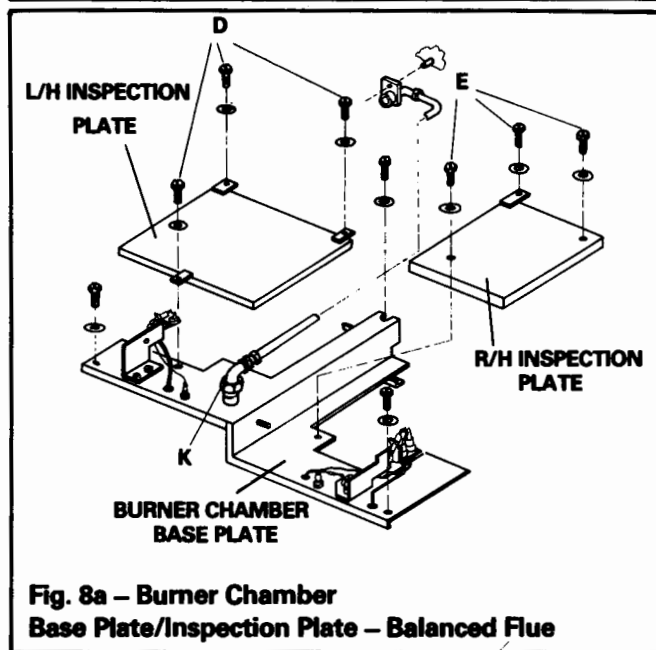

Fig. 8a - Burner Chamber Base Plate/Inspection Plate - Balanced Flue
- k. Undo three hexagonal fixing screws and washers **D** on left hand combustion chamber base plate and remove inspection plate. See Fig. 8a.
- l. Undo three hexagonal fixing screws and washers **E** on right hand combustion chamber base plate and remove inspection plate. See Fig. 8a.